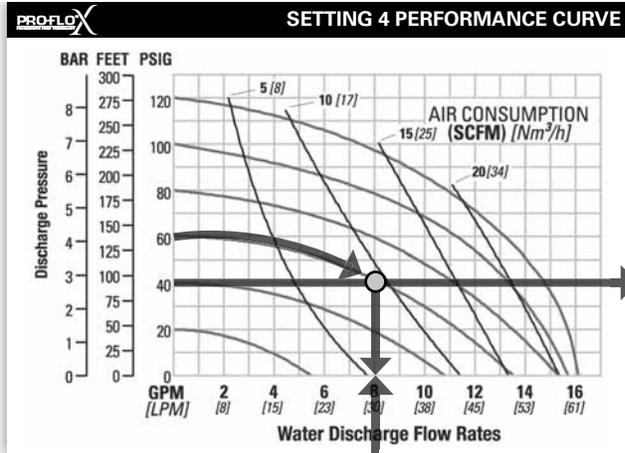

Figure 1
**FIGURE 1** The air valve directs pressurized air to the back side of diaphragm A. The compressed air is applied directly to the liquid column separated by elastomeric diaphragms. The diaphragm acts as a separation membrane between the compressed air and liquid, balancing the load and removing mechanical stress from the diaphragm. The compressed air moves the diaphragm away from the center of the pump. The opposite diaphragm is pulled in by the shaft connected to the pressurized diaphragm. Diaphragm B is on its suction stroke; air behind the diaphragm has been forced out to atmosphere through the exhaust port of the pump. The movement of diaphragm B toward the center of the pump creates a vacuum within chamber B. Atmospheric pressure forces fluid into the inlet manifold forcing the inlet check valve off its seat. Liquid is free to move past the inlet check valve and fill the liquid chamber (see shaded area).
**Step 1: Identifying performance at setting 4.** Locate the curve that represents the flow rate of the pump with 4.1 bar (60 psig) air inlet pressure. Mark the point where this curve crosses the horizontal line representing 2.8 bar (40 psig) discharge pressure. (Figure 1). After locating your performance point on the flow curve, draw a vertical line downward until reaching the bottom scale on the chart. Identify the flow rate (in this case, 8.2 gpm). Observe location of performance point relative to air consumption curves and approximate air consumption value (in this case, 9.8 scfm).